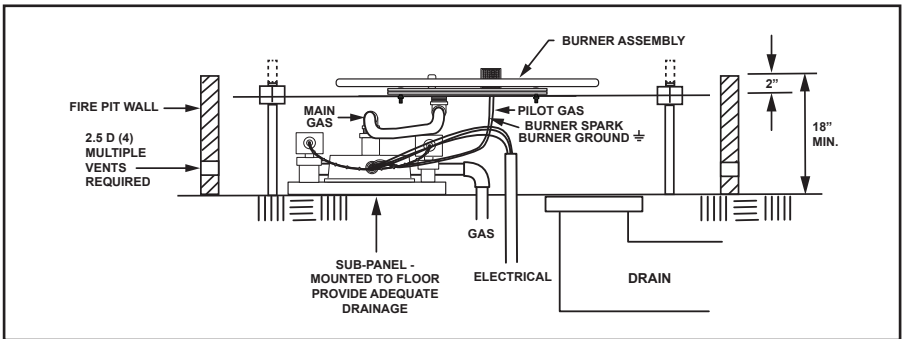

Figure 9. Natural Gas - Residential Installation
10. Install the Sub-panel at the bottom of Fire pit as shown in Figures 9, 10, 11 and 12. It is important to have good drainage as warranty is void if Sub-panel becomes submerged with water. The burner assembly must be centered and supported by the support plate.